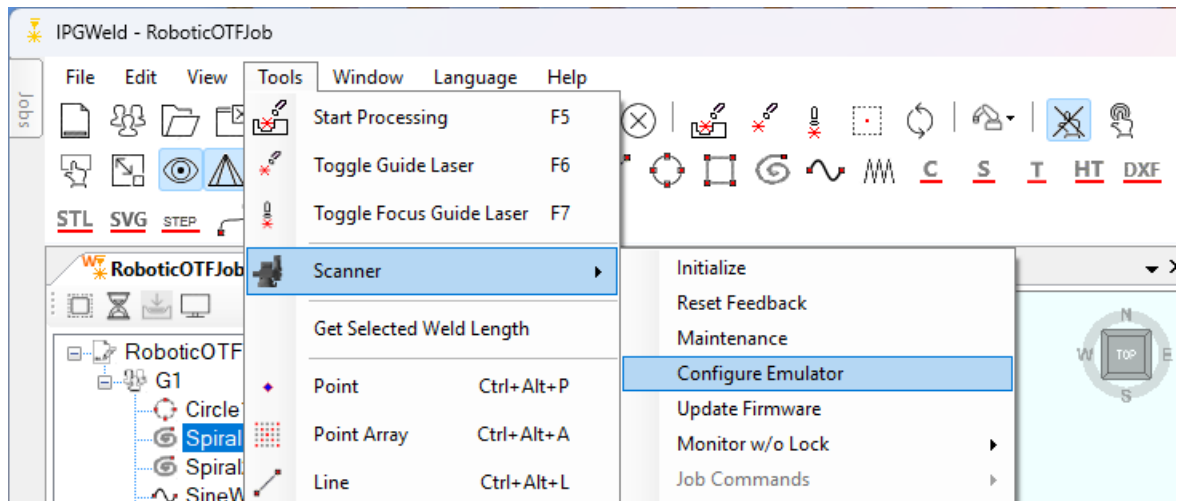

Figure 323: Select “Configure Emulator” Menu Item
3. Open the Emulator Configuration window. See Figure 323 (below).